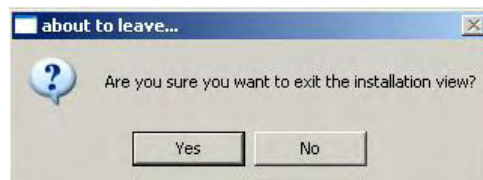

Figure 1-266. Exit Install UI
39. Click on **Yes** when the “About to leave...” screen is displayed (Figure 1-266).